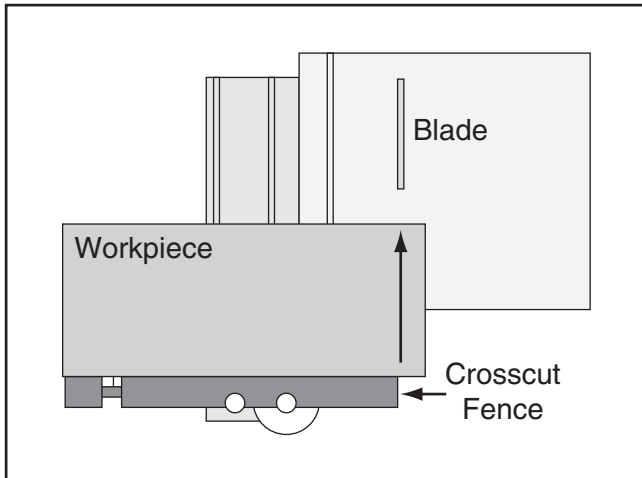

Figure 19. Example of large panel crosscutting.
The Model T10223 enables you to use your table saw to crosscut large panels, as shown in **Figure 19**.
2. Position the crosscut fence to the rear of the sliding table, as illustrated in **Figure 19**, adjust it to be 90° to the blade, then lock it in place.